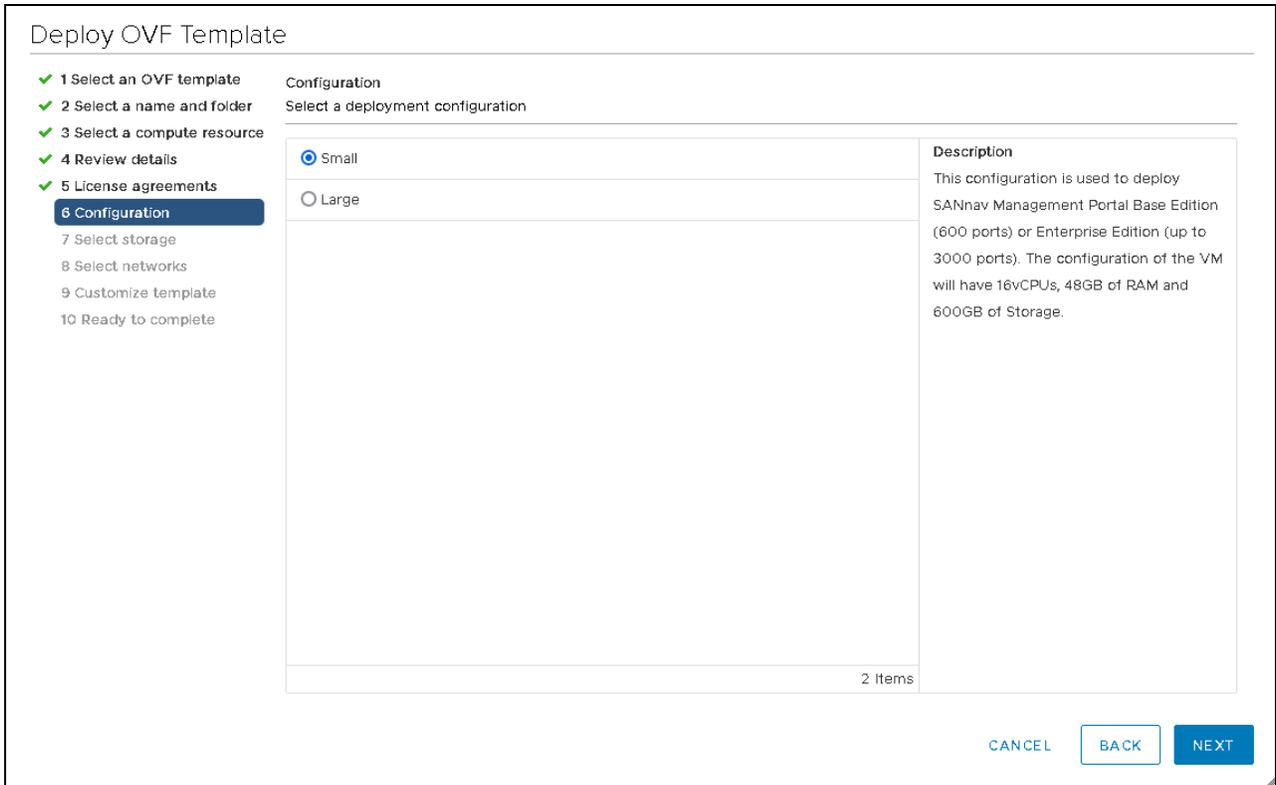

Figure 3-11 Configuration selection
8. The small configuration needs 48 GB of memory, which supports the Base license (up to 600 ports) and the Enterprise license (up to 3,000 ports). The large configuration needs 96 GB of memory to support an Enterprise license and up to 15,000 ports. Select the appropriate configuration for your environment, as shown in Figure 3-11.